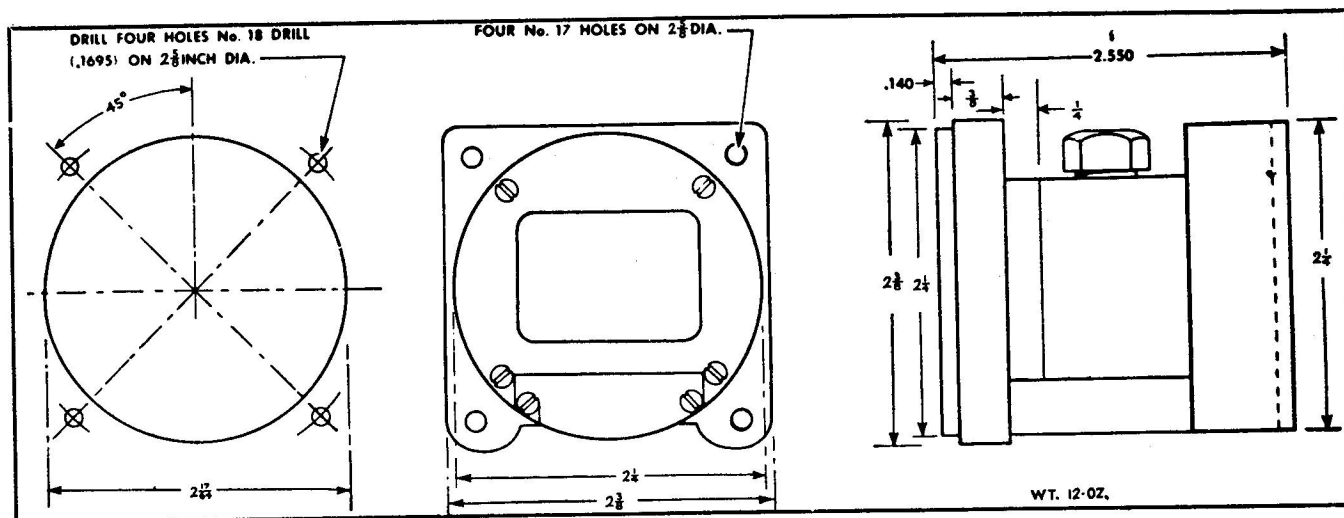

Figure 4 — Installation Dimensions, Type AN 5766-1, 2, 3 or 4 Compass
(4) Special attention shall be given to the prevention of disturbing magnetic fields in the vicinity of the compass, either of a permanent nature (such as may result from the proximity of electrical equipment, radio, armament, or structural members), and also of a varying nature (such as may result from variations in current flow in electrical wiring, or the position of retractable landing gears or kindred equipment).
c. Figure 4 contains installation dimensions of the type AN 5766-1, 2, 3 or 4 compass.